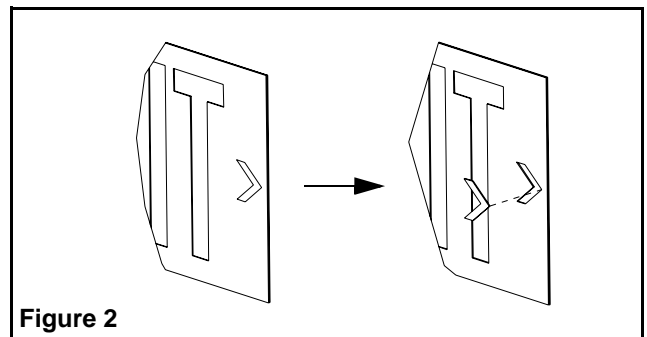

Figure 2
4. Remove the appropriate chevron(s) on the exit sign by supporting the exit face either side of the chevron and knock out carefully with a screwdriver from the rear (see fig. 2).